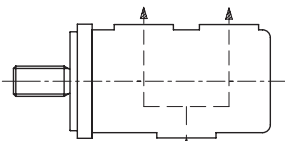

Fig 2
- Inlet port position - see figs 2, 3 or 4